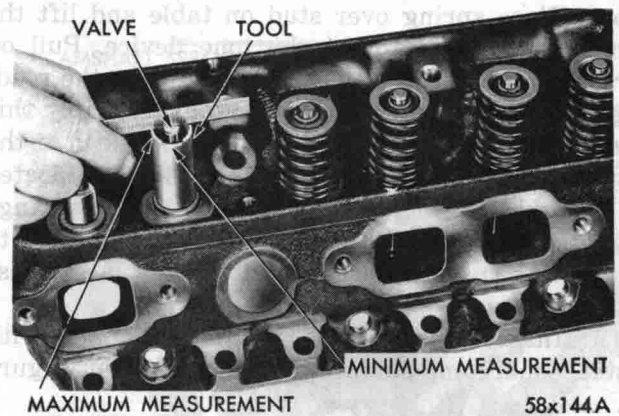

Fig. 23—Measuring Valve Stem Length Using Tool C-3648
(4) The design of the valve mechanism includes a safety factor to allow for a limited amount of wear, and the refacing of valves and seats.
(5) To insure that the limits have not been exceeded, the dimension from valve spring seat in head to valve tip should be measured with Gauge, Tool C-3648, as shown in Figure 23.
(6) The end of the cylindrical gauge and the bottom of slotted area represent the maximum and minimum allowable extension of valve stem tip beyond the spring seat.
(7) If the tip exceeds maximum, grind the stem tip to within gauge limits.